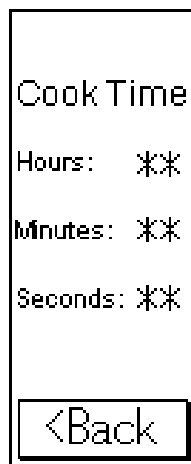

Figure 4
2. Press Corresponding time setting (Hours, Minutes, Seconds) to adjust to desired settings. (see Figure 4: Timer Management)